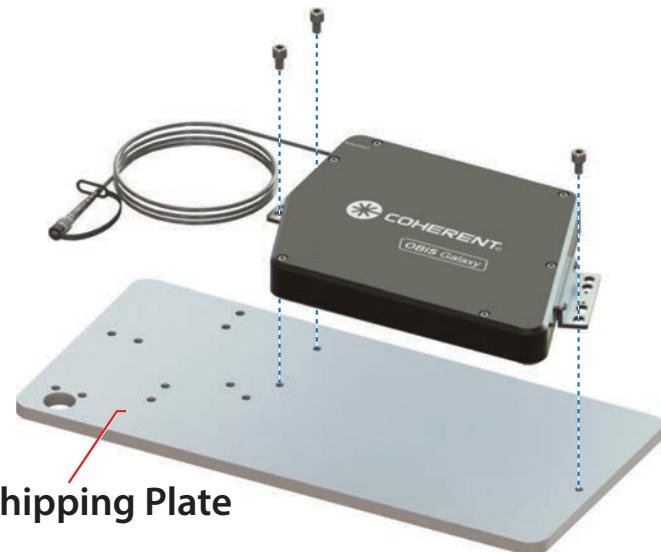

Figure 13-28. Secure OBIS Galaxy to Shipping Plate
1. Attach the OBIS Galaxy to the shipping plate using the three socket head cap screws, as shown in Figure 13-28.